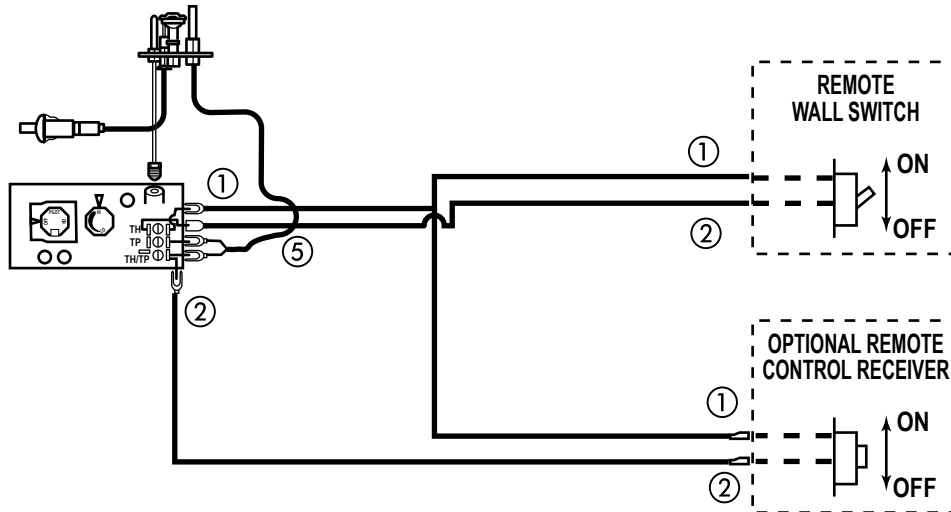

Figure 49 - Wiring Diagram for Wall Switch
A remote wall switch and up to fifteen (15) feet of 18 Ga. wire may be used with this appliance. Attach the wall switch in a junction box at the desired location on the wall. *Figure 49*. Do not extend beyond the wall switch wire length provided.
3. Connect the wire terminal from the remote receiver. *Figure 49*